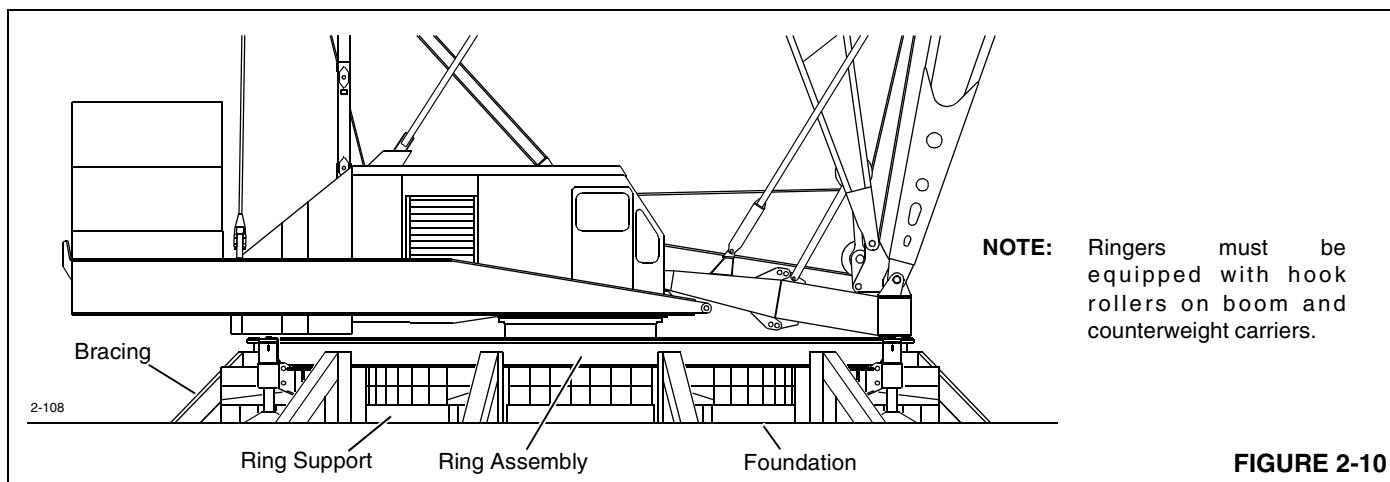

FIGURE 2-10
3. RINGER® (crawler mounted, carbody mounted) supported on blocking, screw jacks or steel pedestals which are braced and fastened to foundation in such a manner as to prevent movement (Figure 2-10).